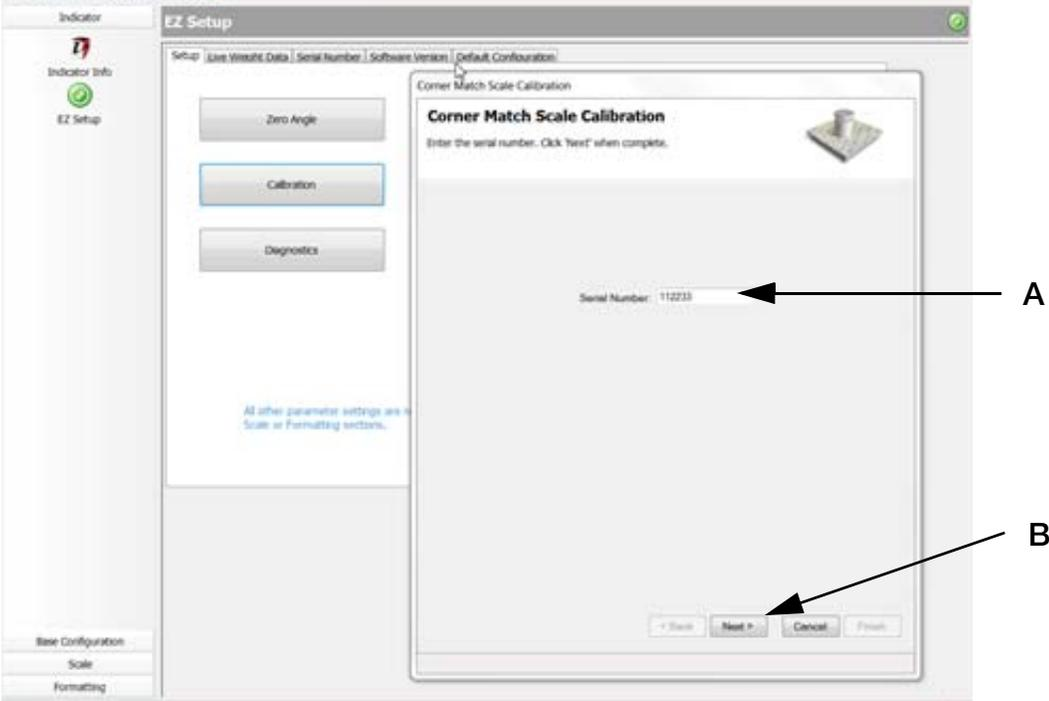
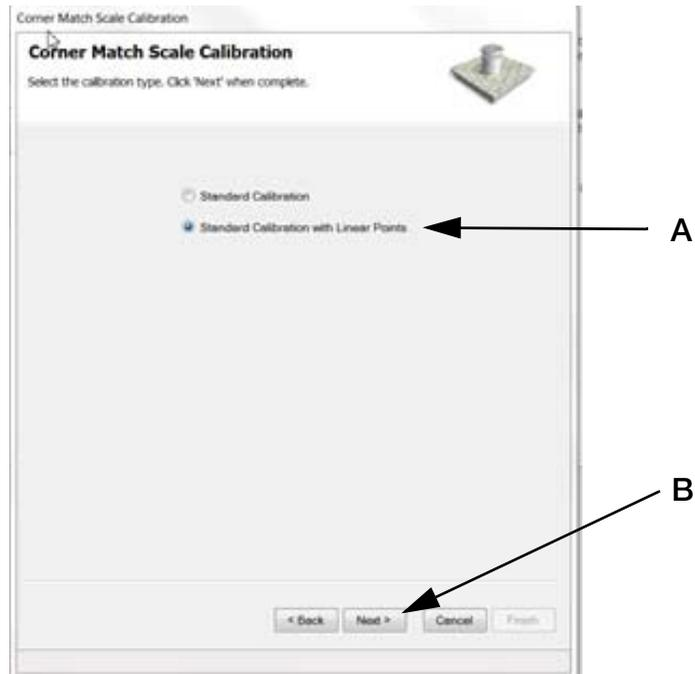

Figure 5-10. Enter Serial Number
Figure 5-11. Standard Calibration with Linear Points
1. Enter the six-digit serial number of the scale (Figure 5-10 A). The serial number can be found on the top-right cleat of the scale back plate or the serial tag installed on the scale. If the serial number is incorrect or 0, enter the correct serial number and press **Next** to store that number (Figure 5-11 B).
2. Select **Standard Calibration with Linear Points** (Figure 5-11 A) and press **Next** (Figure 5-11B).